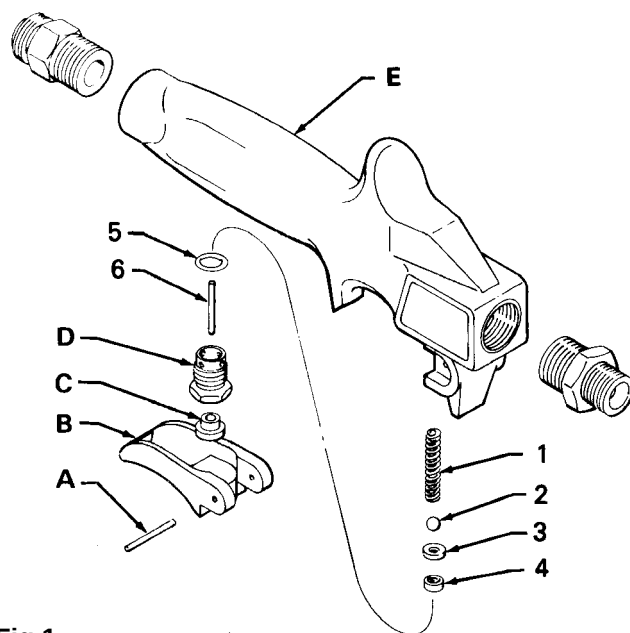

Fig 1
12. Install the spring (1) in the spring cavity of the valve handle, then install the ball (2) so it is centered on the spring. See Fig 1.
13. Place the o-ring (5) around the fluid housing. Pushing lightly with your fingers, start the threads of the housing into the valve handle. Torque the housing to 15-20 in-lb (1.7-2.2 N.m). See Fig 1.
15. Grease the cap (C) and place it on the end of the needle. See Fig 1.
16. Slide the trigger (B) into place. Install the pin (A) in the trigger. See Fig 1.